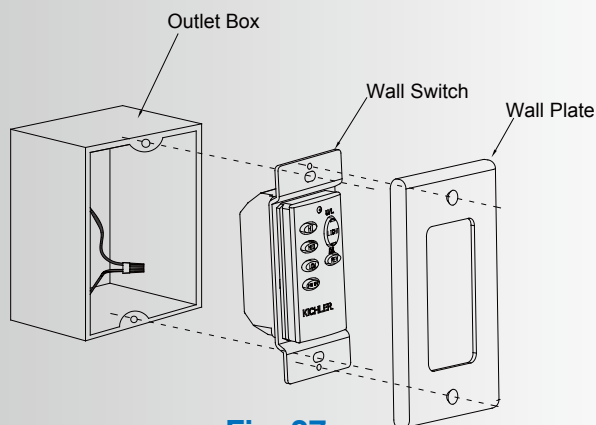

Fig. 27
Step 2. Use the screws provided to secure the wall transmitter to the outlet box. (Fig. 27)